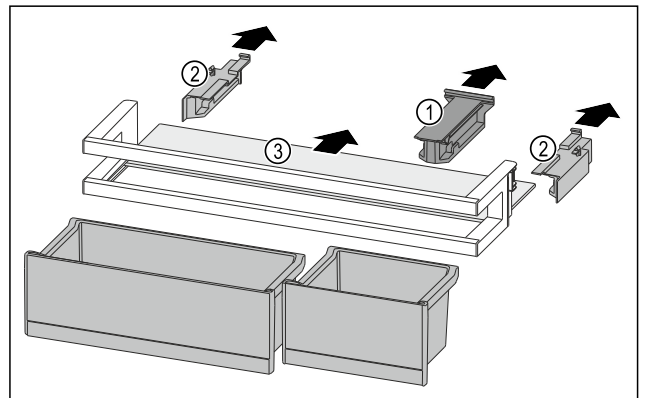

Fig. 121
- Pull off the holding part Fig. 121 (1).
- Pull off the side parts Fig. 121 (2).
- Remove the shelf Fig. 121 (3).